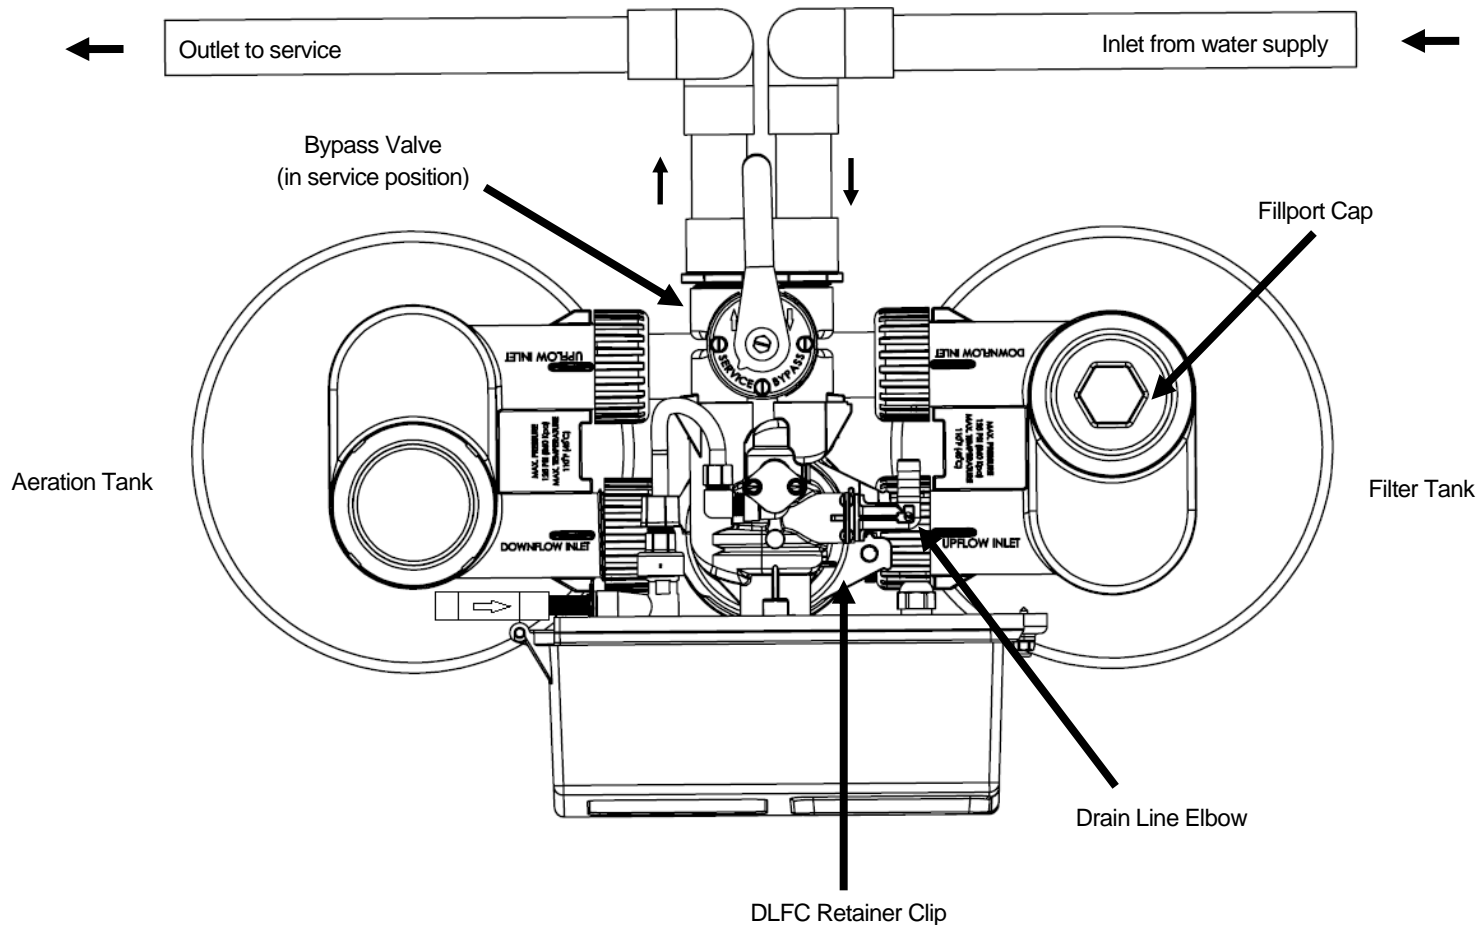

FIGURE 2: Tank Positioning and Fillport Location
- STEP 1:** If media is already loaded in filter tank proceed to Step 4. Otherwise, use the fillport wrench provided to remove the fillport cap (See Figure 2, page 5) by turning it counter-clockwise.